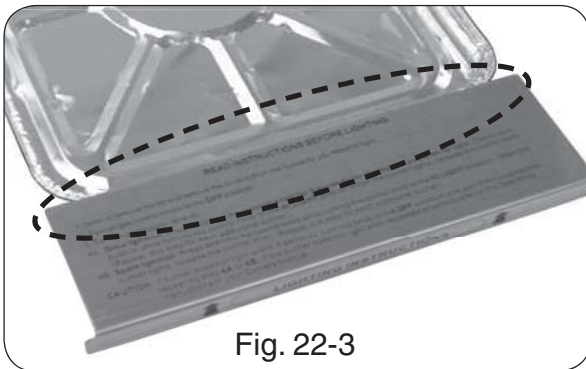

Fig. 22-3
**Note:** For models with match holders attached inside the drip tray, place the match holder off to one edge of the pan (Fig. 22-3). If necessary, mold the foil liner around them and the other features of the tray to create enough clearance space to open and close the tray without catching the liner.